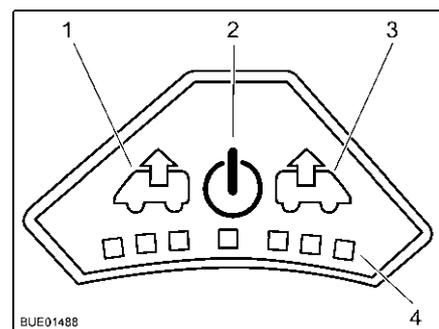

Fig. 125 Control panel for fan
- Press the On/Off button (Fig. 125,2). The fan runs in comfort mode (venting at slowest fan speed).
- To increase the fan speed: Press the Vent button (Fig. 125,1). The fan speed in the venting direction increases by one level. LEDs (Fig. 125,4) show the operating levels.
- To lower the fan speed: Press the Aerate button (Fig. 125,3). The fan speed decreases by one level.
- To increase the fan speed: Press the Aerate button (Fig. 125,3). The fan speed in the aerating direction increases by one step. LEDs (Fig. 125,4) show the operating levels.
- To lower the fan speed: Press the Vent button (Fig. 125,1). The fan speed decreases by one level.
- Press the On/Off button (Fig. 125,2). The fan stops, the LEDs go out.